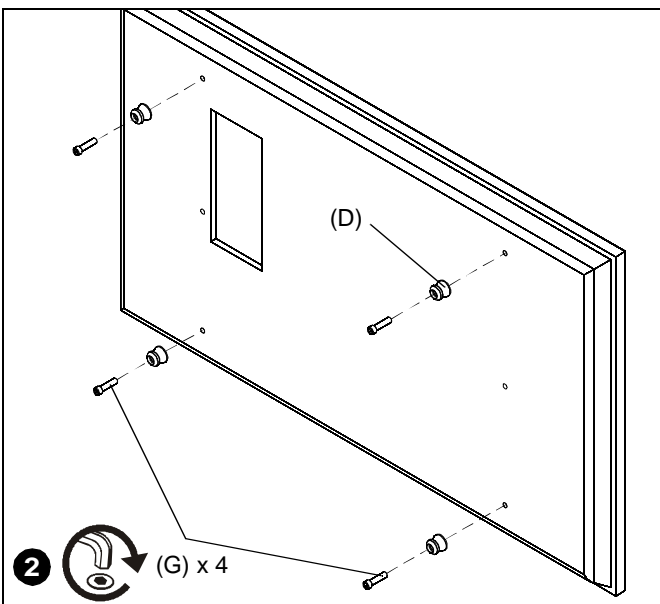

Figure 6
2. Install four mounting buttons (D) onto display using four M16 x 65mm socket head screws (G). Install screws into narrower end of mounting button. (See Figure 6)